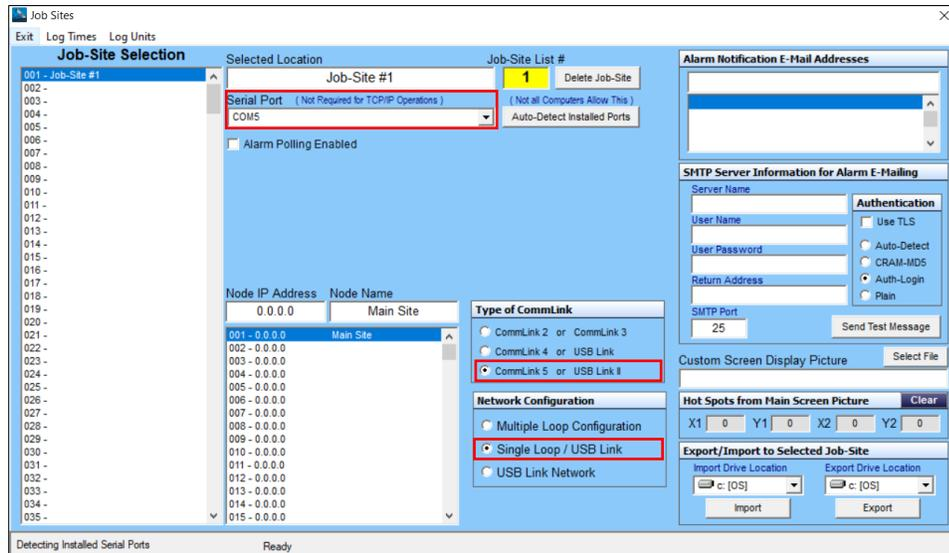

Figure 25: Job Site Screen Configuration
5. Set the following on the job-site screen (see figure 25):